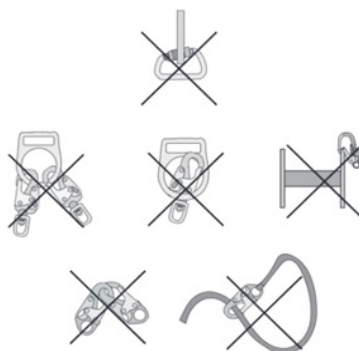

Figure 5: Proper and improper connections
7.5 MAKING CONNECTIONS: Equipment (including snap hooks and carabiners) used with the SRD must be self-locking and compatible in size, shape, strength. Do not use equipment that is not compatible. Before use, ensure all connectors are fully closed and locked. Do not connect snap hooks and carabiners. Refer to Figure 5: